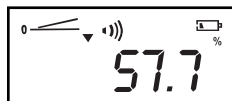

Figure 5
4. Press the  $\angle^{\circ}$  **In/Ft** button again to get the slope of the surface  $H=57.7\text{cm}$  ( $H=L*\tan \alpha$ ,  $L=100\text{ cm}$ ,  $\alpha=30.0^{\circ}$ ), as shown in Figures 5 and 6.